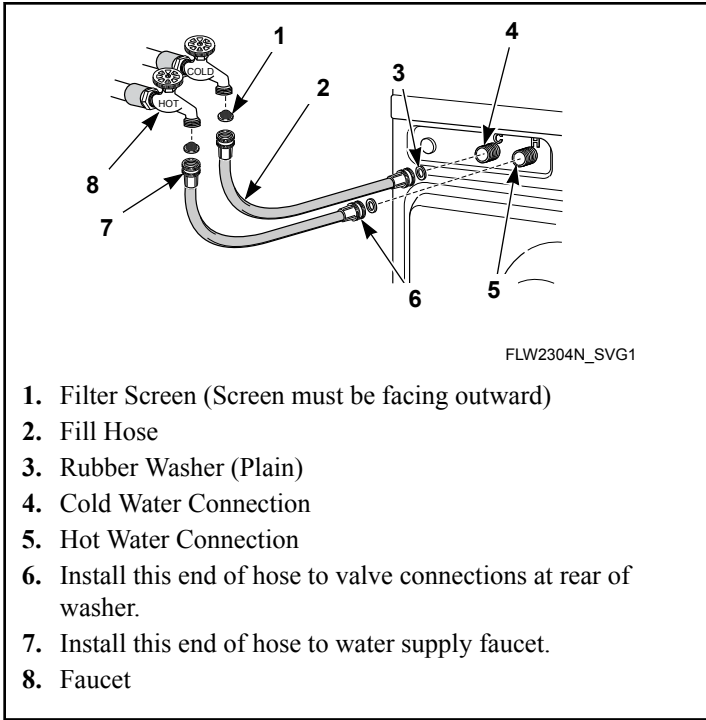

Figure 6
2. Install them into each end of the fill hoses as shown in *Figure 6*. The screen must be facing outward.
the cold faucet goes to the valve marked “C”. Refer to Figure 6 .